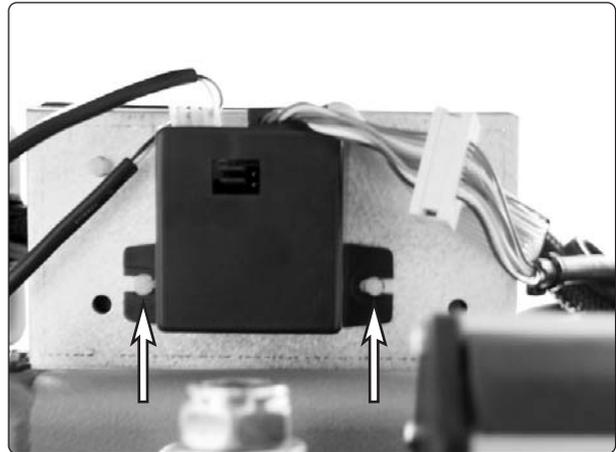

Fig. 55. The relay box is mounted with two "plastic clip fixings". The relay box is shown from below in the picture.
3. The relay box is mounted underneath the case belonging to the rear seat function board, see Fig. 54. Removal is performed by pressing together the plastic clip fixings that are sticking out of the underside of the seat function board's case, see Fig. 55.